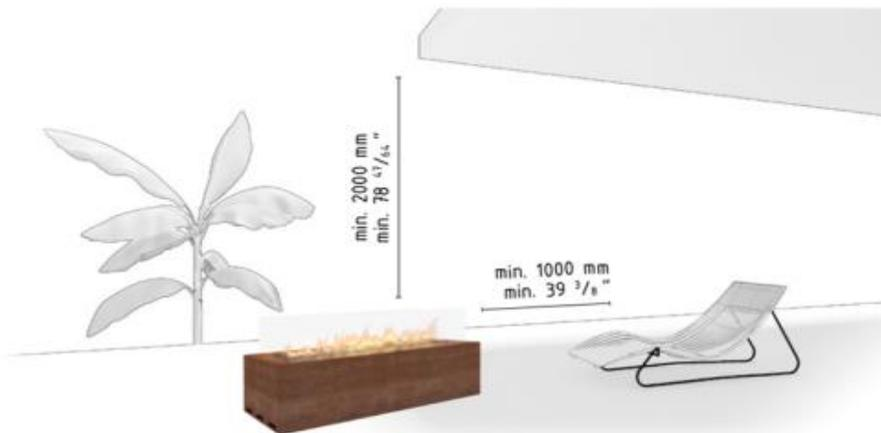

Figure 1: Minimum distance to flammable materials
- This appliance must be kept away from flammable materials during use. Do not place any combustible materials within a distance of 1 m of Galio Corten/Black Manual and 2 m over the appliance (Figure 1).